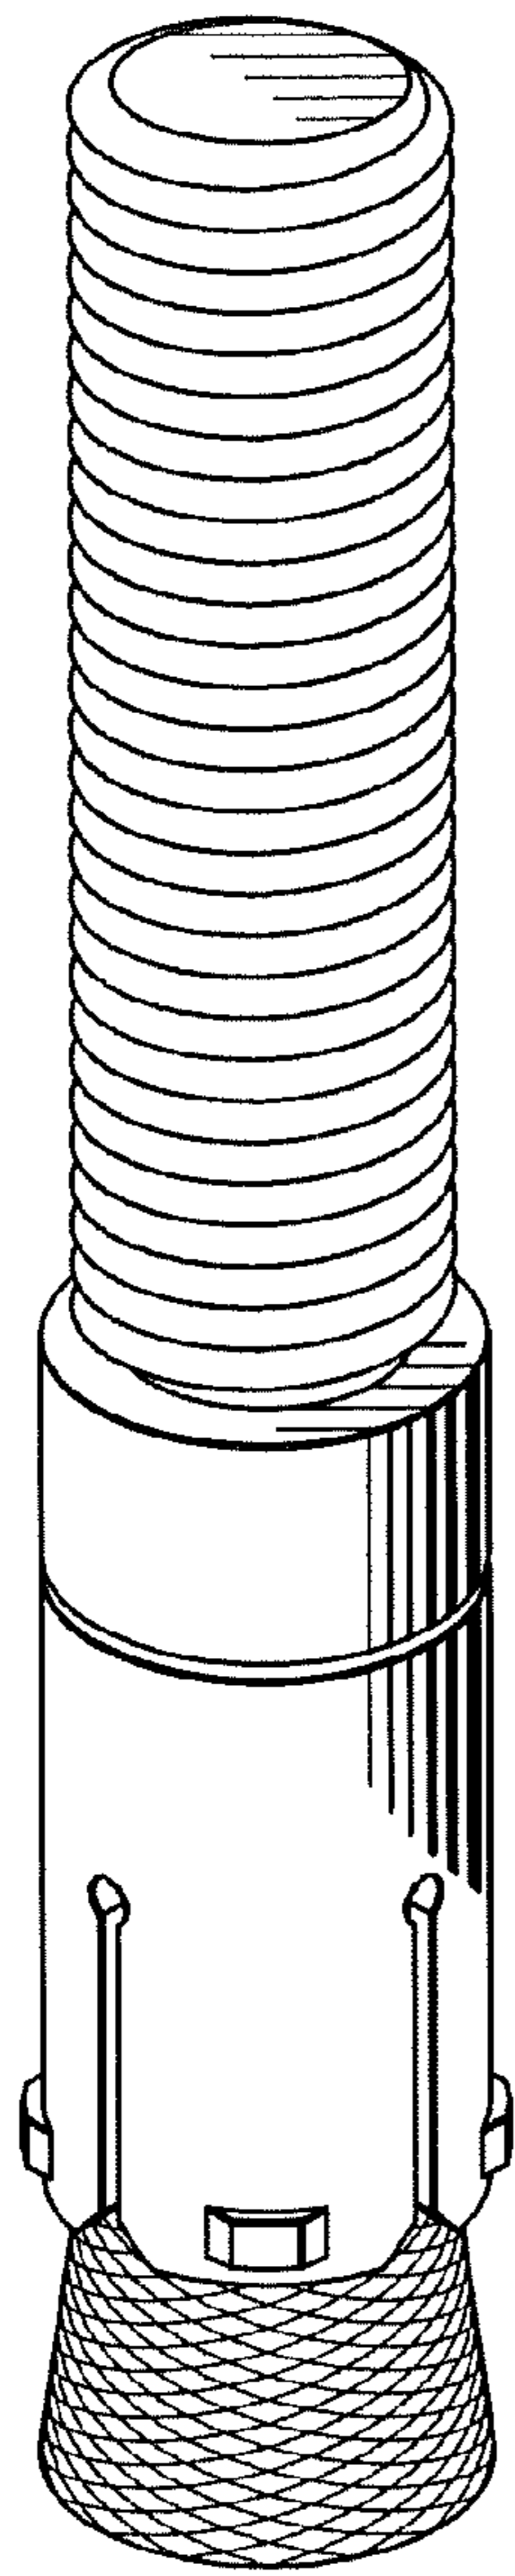

Fig. 3
- FIG. 3 is a top perspective view of the stud having a diamond-knurled wedge;